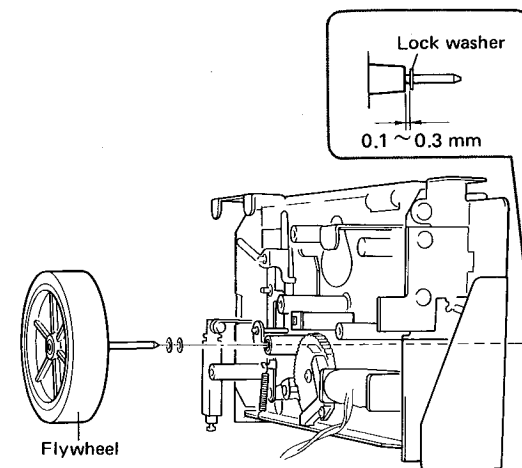

Fig. 18
4. The flywheel can be removed by simply pulling it towards the back of the mechanism. When assembling the flywheel, be sure not to forget the washer. (See Fig. 18.)